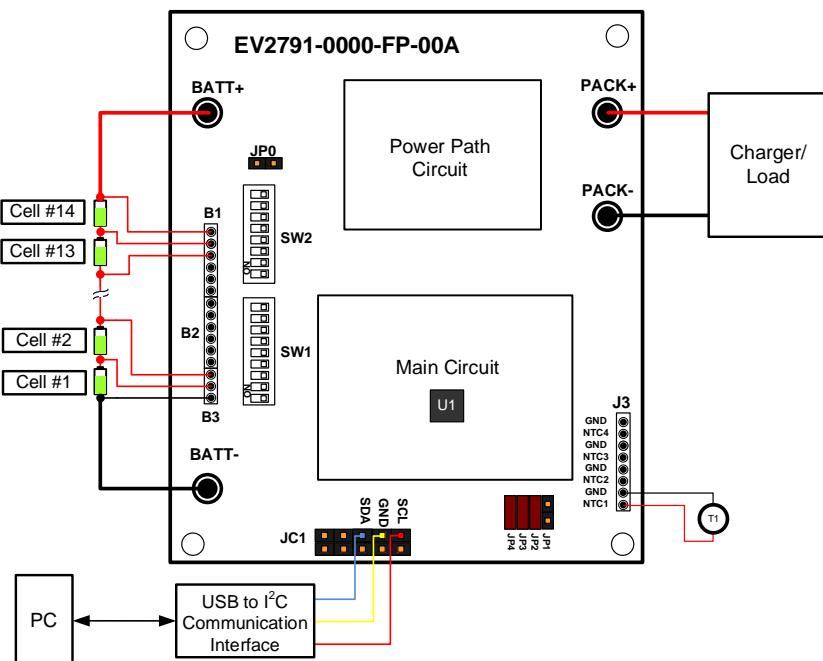

Figure 6: EV2791-0000-FP-00A Wire Connection
9. If using the EV2791-0000-FP-00A, connect SDA, SCL, and GND to the USB-to-I²C communication interface (see Figure 6).